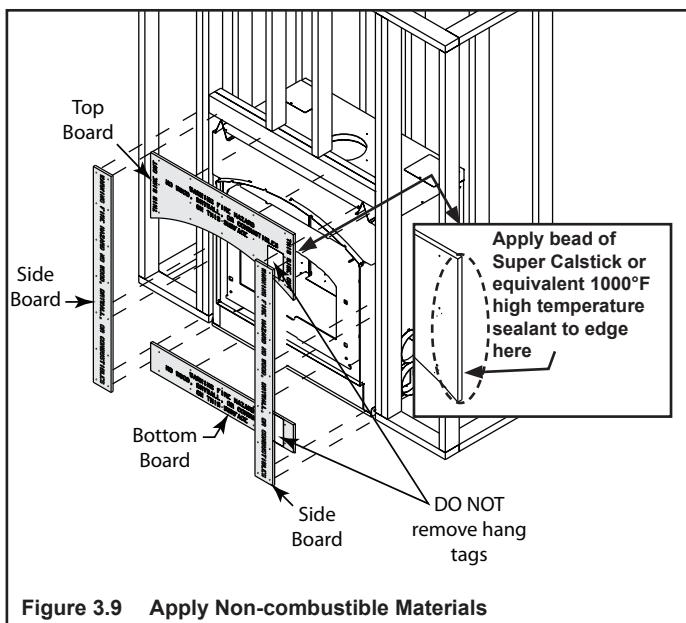

Figure 3.9 Apply Non-combustible Materials
- Using the Super Calstick or equivalent 1000°F high temperature sealant, run a light bead (1/8 in. minimum) between the metal surface of the fireplace and the butt edges of the top board. See Figure 3.9.